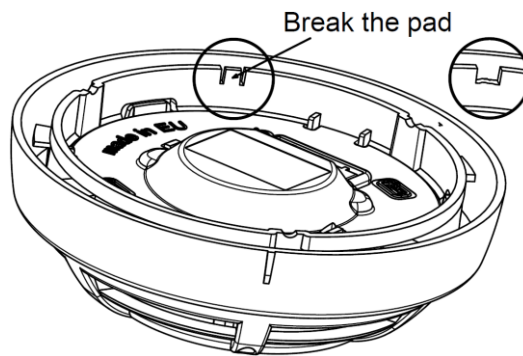

Fig.3
- Break the plastic at the specified location on the bottom of the sounder ( Figure 3 ).